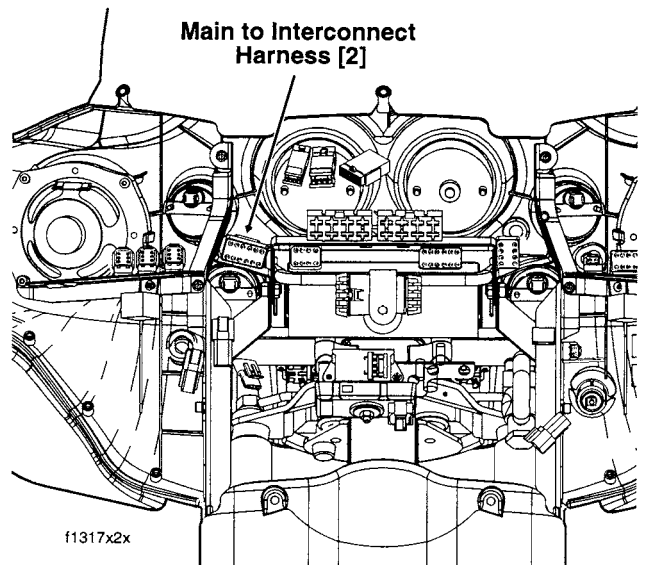

Figure 54. Outer Fairing Removed (1996 FLHTCU)
E.3.2 Check orange/blue wire from CB Power In connector [5] to connector [2] and then to 10 amp fuse at fuse block. See Figure 53 and Figure 54. Repair broken connection(s) as necessary.
Check red/orange wire from CB Power In connector [5] to connector [2] and then to 1 amp fuse at fuse block. See Figure 53 and Figure 54. Repair broken connection(s) as necessary.